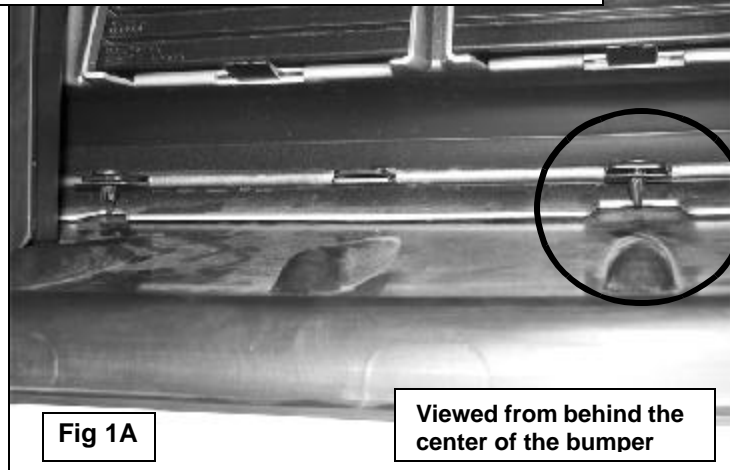

Fig 1A
- Starting at the underside of the front bumper, carefully remove the plastic splash guard. **NOTE:** Depending on the model of truck, the splash guard may be attached to the bottom of the truck with hex bolts. There are also several two-piece plastic push-in clips across the back, behind the bumper cover holding the splash guard up to the cover, **(Figure 1A)**. First, locate the clips behind the bumper cover. Pry the center pin of the clip up with a small flat blade screwdriver and remove the entire clip, **(Figure 1B)**. The splash guard may also be attached with rivets or hex bolts at the corners of the bumper cover. If the guard is fastened with rivets, once all of the other hardware has been removed, hold the bumper cover in place and firmly pull the splash guard from the rivet. Remove the rivet from the bumper cover and